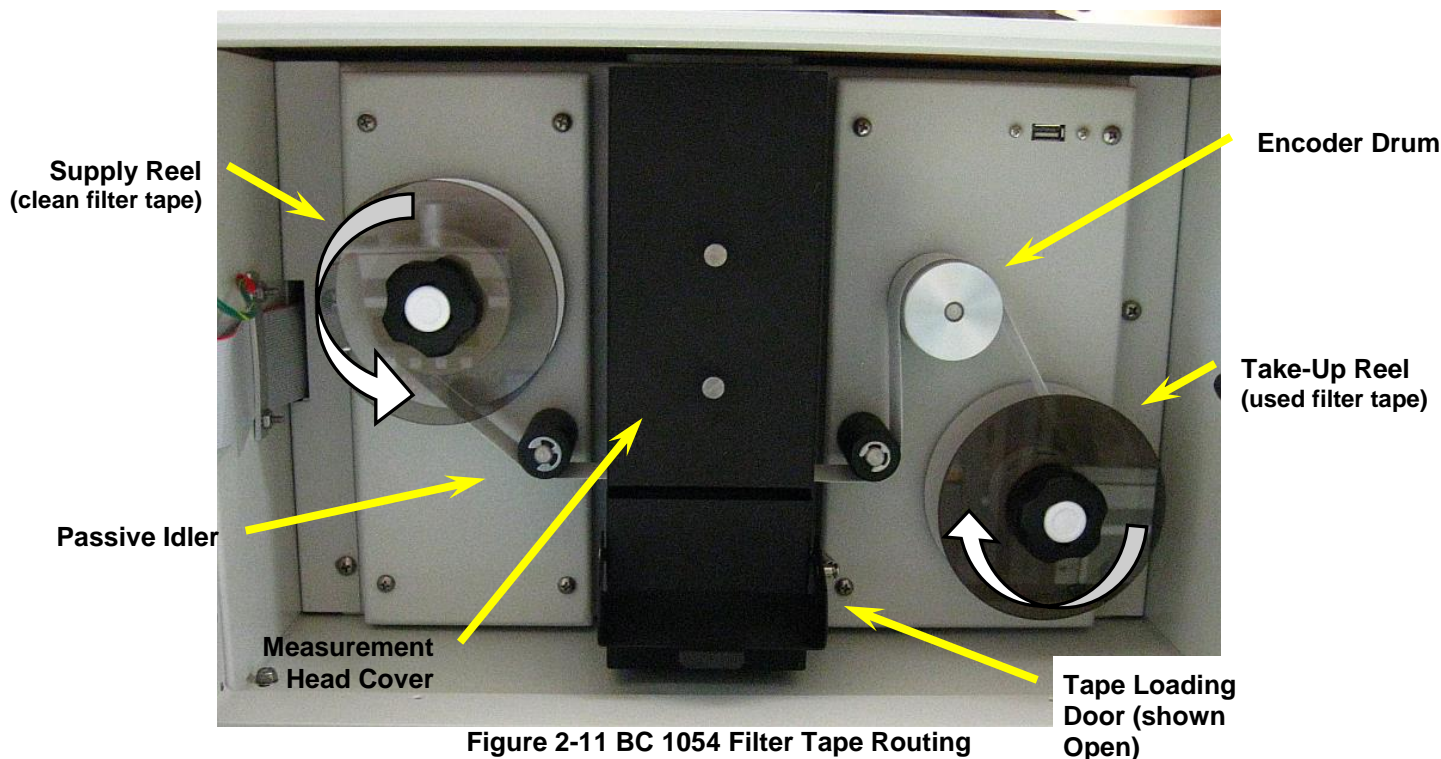

Figure 2-11 BC 1054 Filter Tape Routing
3. Install the new filter tape roll onto the left (supply) reel, with the tape coming off of the left side of the roll. Route the tape exactly as shown in Figure 2-11. It should go under the black idler, through the slot in the measurement head cover, under the other black idler, up over the rough encoder drum, and then down to the take-up reel on the right side. Fasten the loose end of the tape to the right edge of an empty core tube installed on the take-up reel, with cellophane tape. **Make sure that the softer side is UP** and the textured side is **DOWN**.